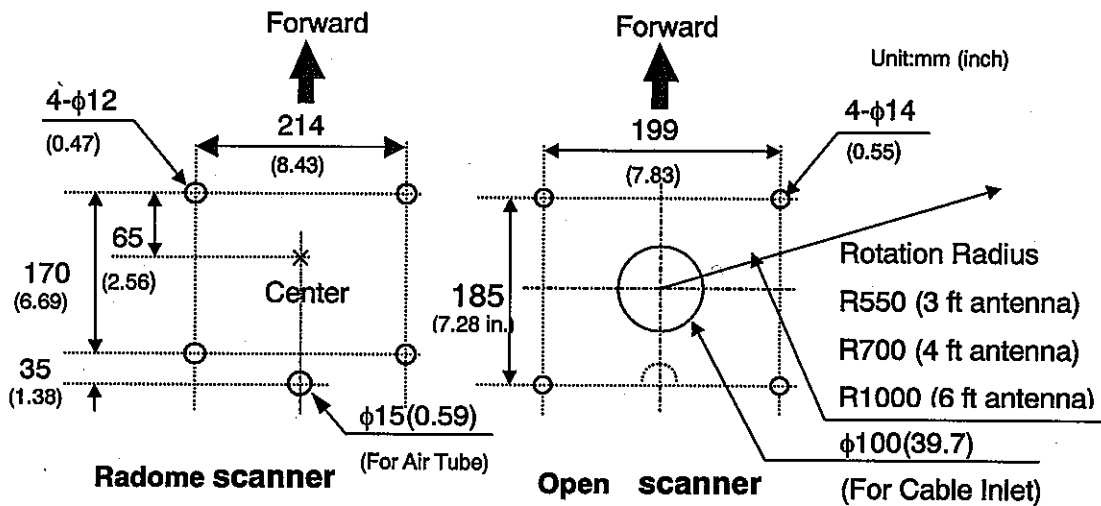

Figure 4.1 Plan view of fixing holes
- (1) Drill four fixing holes of 14 mm (12 mm for Radome) diameter on the fitting surface of a radar platform, as shown in Figure 4.1.
- (2) Fit the transceiver unit on the position and fix it using the 12 mm (10 mm for Radome) stainless bolts prepared as installation materia